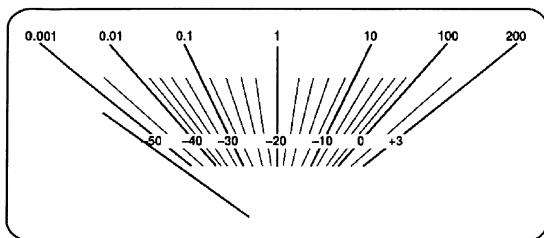

Fig.3
3. Turn the power **ON**, make sure that the power meter is mechanically adjusted to **0** point. Shown in Fig.3